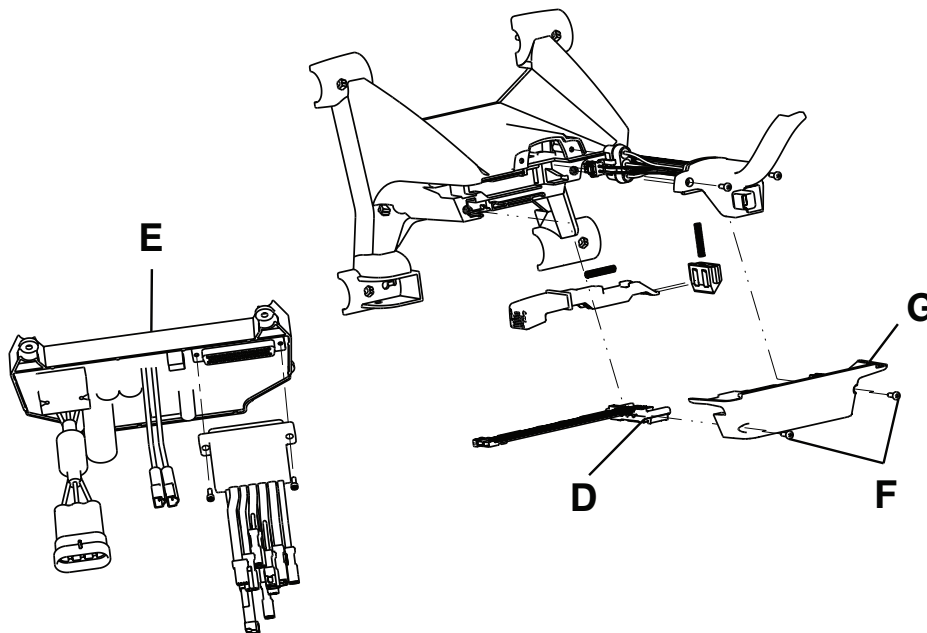

Figure 20 – Control board and cot connector cable assembly
6. Unplug the black and red wires that connect the cot connector cable assembly (D) to the control board (E) (Figure 20).
7. Using a T20 Torx driver, remove the two delta screws (F) from the bottom plate of the foot end enclosure (G) to remove the enclosure (Figure 20). Save all parts.